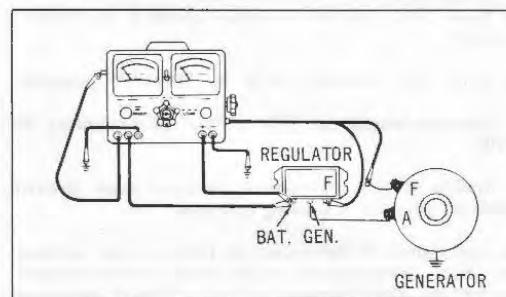

Figure 5I-12.
D. TESTING CUTOUT RELAY UNIT CLOSING VOLTAGE (Fig. 5I-11)
5. Slowly turn field control knob toward the "Direct" position to decrease resistance in generator field circuit. As the resistance is decreased, voltmeter reading will increase until a kickback of the voltmeter needle is observed. The highest voltage noted will be the cutout relay closing voltage. Repeat operation several times, each time turning the field control to "Open" position. If the closing voltage is not within specifications (see Fig. 5I-1), adjust according to manufacturer's Service Bulletin and retest.
E. TESTING VOLTAGE CONTROL UNIT SETTING (FIG. 5I-12)